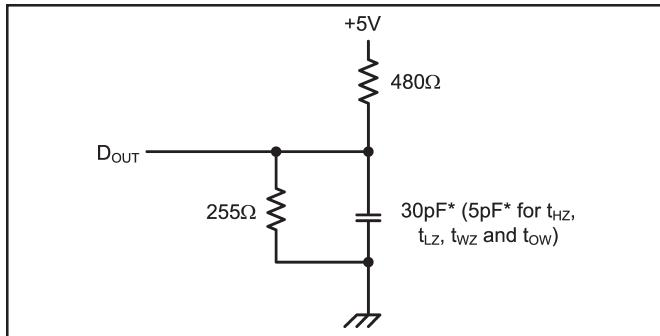

Figure 1. Output Load
- Transition is measured ±200mV from steady state voltage prior to change with specified loading in Figure 1. This parameter is sampled and not 100% tested.
Output Load	See Figures 1 and 2